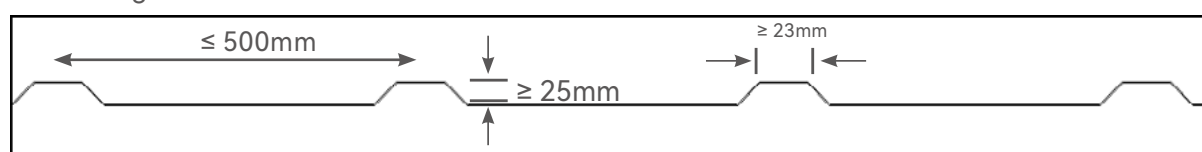

FIGURE 1
- For colour steel tile roof, the rib spacing should be less than 500mm, with a height difference between the rib and valley more than 25mm ( 25mm is recommended, actual installation requirements should be subject to the terms of the local inspector), and rib width more than 23mm. (Figure 1)